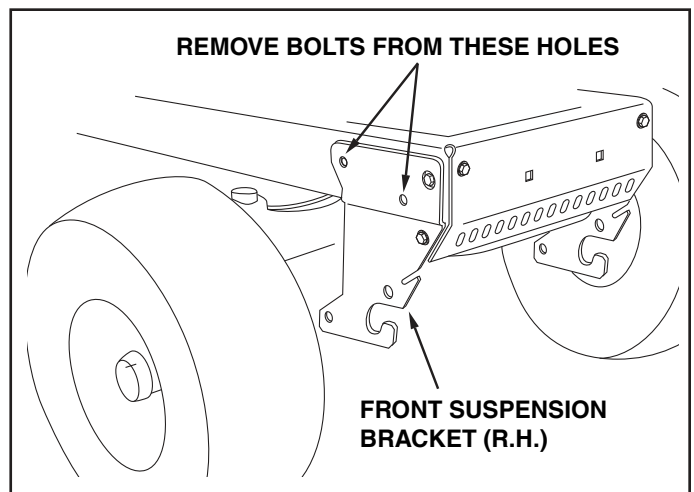

FIGURE 9
**INSTRUCTIONS FOR (GT) GARDEN TRACTORS WITH DUAL SUSPENSION BRACKETS**
16. Remove the lower front hex bolt from the R.H. front suspension bracket. See figure 9.
17. Remove the hex bolt from the hole at the rear of R.H. front suspension bracket. See figure 9.